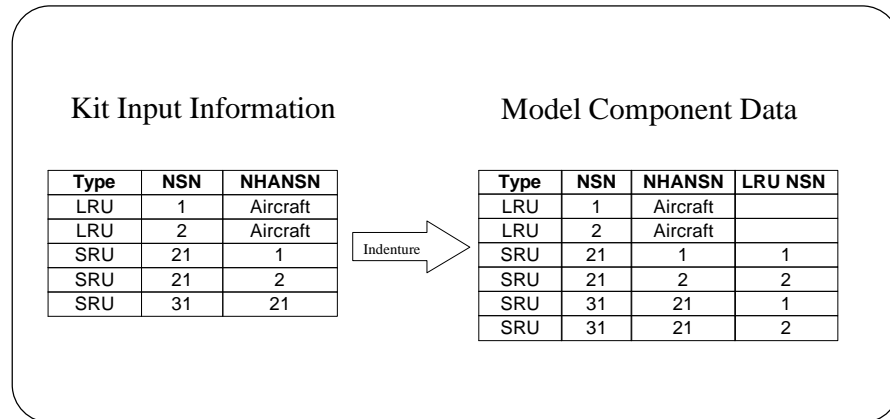

Figure 4-28.
Figure 4-28 displays the user kit information required to develop the indenture tree displayed in Figure 4-27. Once the user enters the information, the model indenture processing automatically generates the full indenture structure with each of the common SRU occurrences (e.g., adding the multiple occurrences of SRU 32). ISAAC generates the full indenture structure to reduce the data input requirements of the user and simplified his task. *A key point to remember is the common SRUs with different parents (e.g. SRU 21) kit information must only differ for the NHANSN field and QPANHA and all other fields must be identical.*
A final indenture note, ISAAC displays component information in three basic aggregations: (1) the kit input information that we have just described contains all records where the NSN plus NHA fields are unique (left side of Figure 4-27); (2) the model input component information contains all records where the NSN, NHA, and LRU NSN fields are unique (right side of Figure 4-28 and in the **View Input** Component data browses); and (3) the model output information contains all records where the NSN fields are unique (in the **View Output** browses).